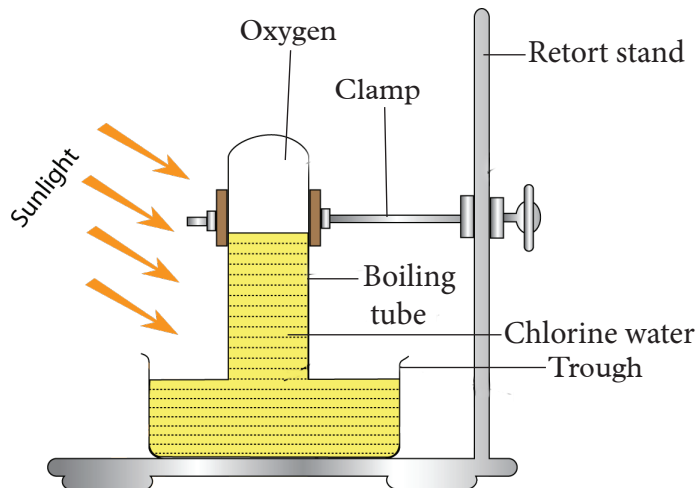

Fig 4.8 Chlorine water in sunlight
3. a) Pass chlorine gas through distilled water in a gas jar as shown fig 4.8.
- b) Fill a boiling tube with chlorine water. Invert the boiling tube in a beaker containing distilled water as shown in fig 4.8 and leave the set up in sunlight for 2 days.
When chlorine water is exposed to sunlight for some time, oxygen gas is produced displacing the solution from the boiling tube as shown in Fig 4.8.